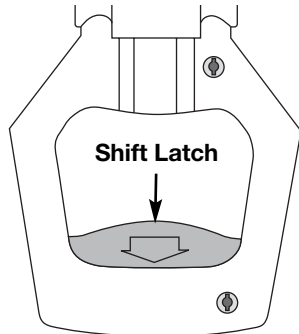

Fig. 9
1. If the shift handle is in the UP position, grasp the red shift latch (Fig. 9) on the shift handle and squeeze until the internal locking mechanism releases.
1. If the shift handle is in the DOWN position, grasp the red shift latch (Fig. 9) on the shift handle and squeeze until the internal locking mechanism releases.